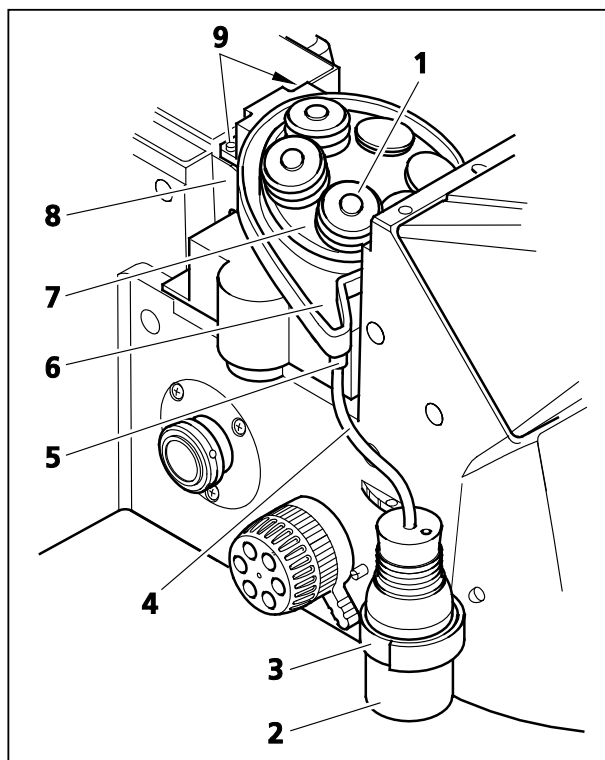

Fig. 20 Fitting the Aqua Stop II
- Place the collecting trough (Fig. 20/6) onto the nosepiece mount (Fig. 20/8) and screw in place using two screws (Fig. 20/9).
- Place the cover disk (Fig. 20/7) onto the nosepiece.
- Pull a suitably sized lens hood (Fig. 20/1) over each objective.
- Attach the drainage tube (Fig. 20/4) to the drainage connector (Fig. 20/5). Insert the other end of the tube through the bung on the collecting bottle (Fig. 20/2) so that it projects 3 to 4 mm through the bung.
- Attach the enclosed Velcro fastener (Fig. 20/3) to the stand. Attach the collecting bottle to the stand using the Velcro fastener.